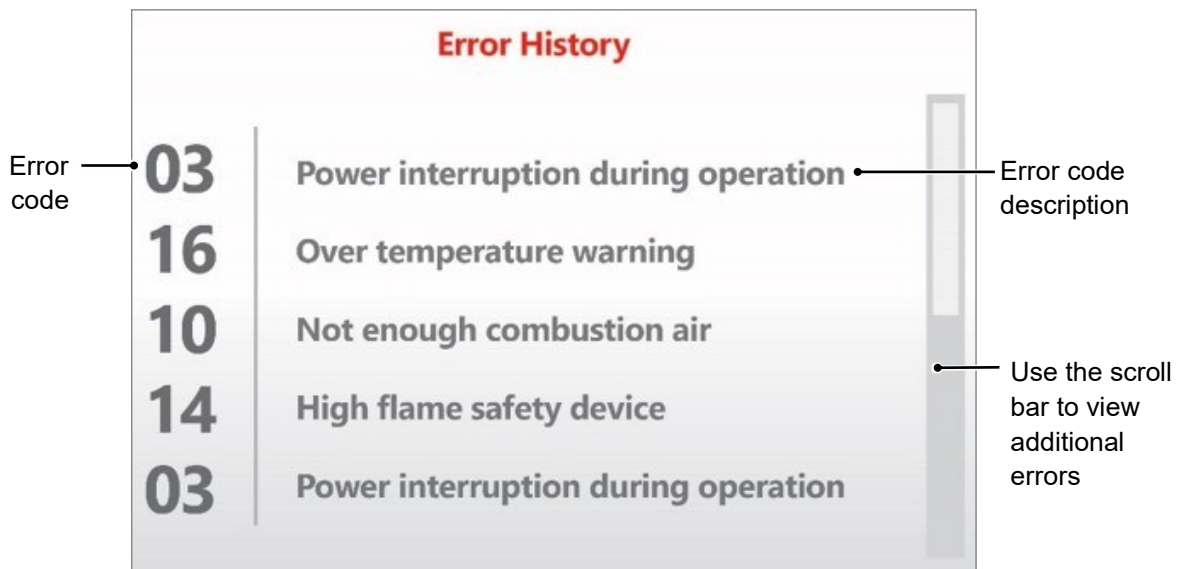

Fig 83. Error History Window
2. The “Error History” window appears, which lists the previous error codes and descriptions (Fig 83).